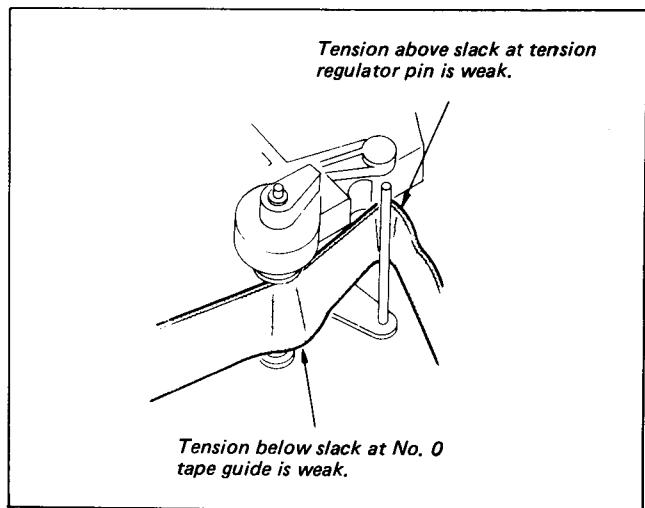

Fig. 3-7. Replacement and Adjustment (3) of Tension Regulator Arm Plate Assembly
(7) After adjustment, confirm that there is not a large bending of the tape at each of the tension regulator guide pin section and the No. 0 guide section shown in Fig. 3-7. If bending is found, repeat Step 3.